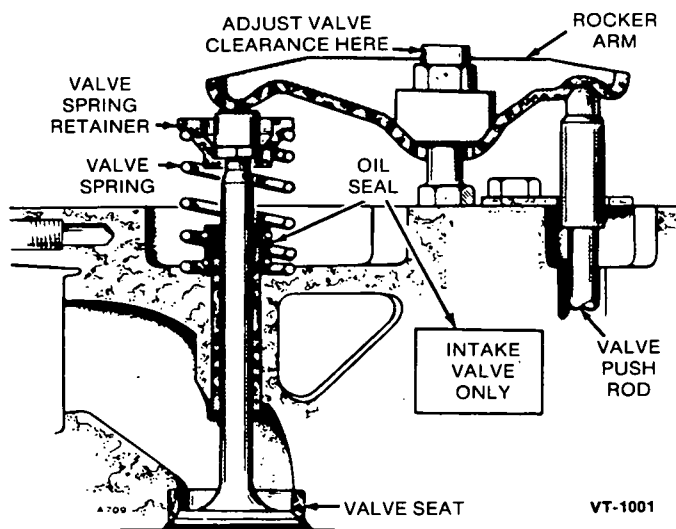

FIGURE 17. VALVE CLEARANCE ADJUSTMENTS
3. Valve clearance is adjusted with the locknut which secures rocker arm to the cylinder head (see Figure 17). Loosen the locknut to increase clearance and tighten to reduce clearance.